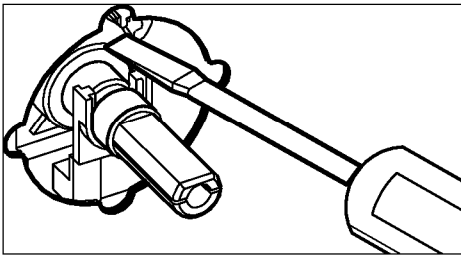

Figure 13
2. Remove the knob of the corresponding gas tap and insert screwdriver in the end part of the tap or in the screw (**Fig.13, 14**).